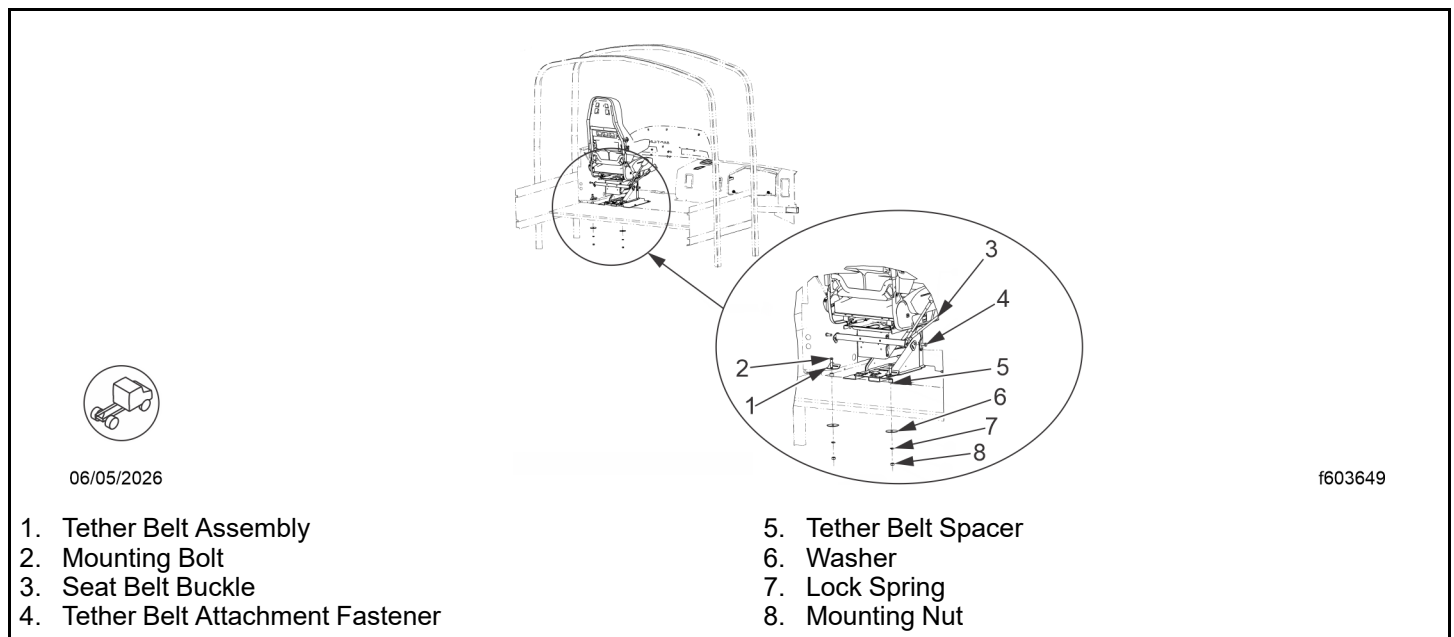
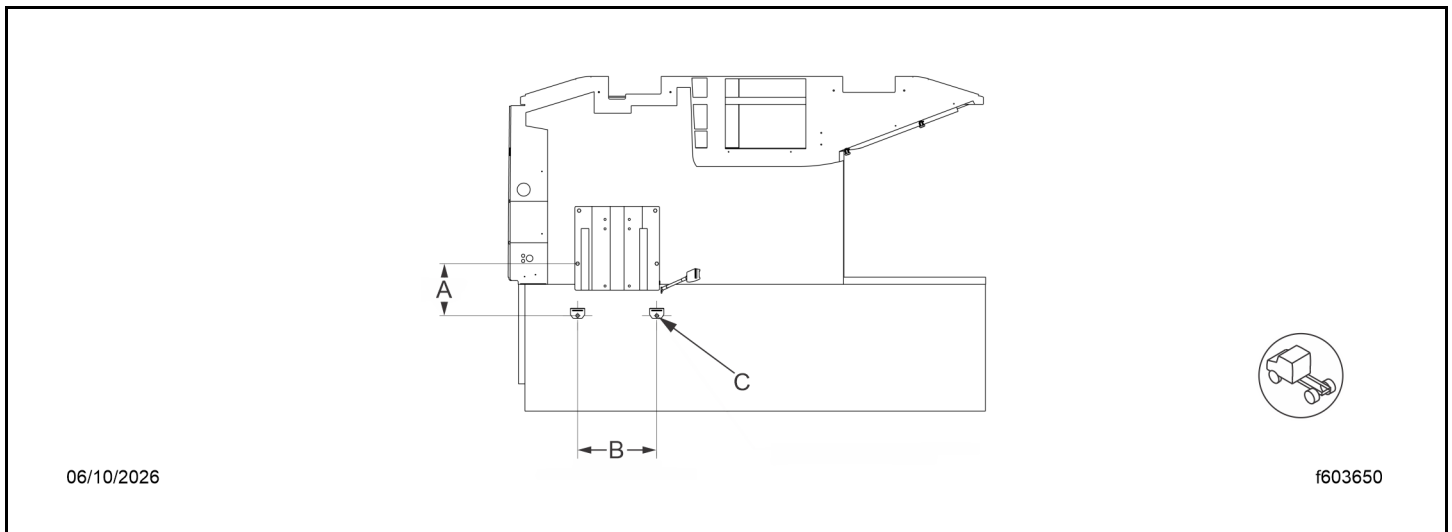

Fig 1, Tether Belt Assembly Fasteners
Fig 2, Under the Floor Diagram
4. Install the new anchor bolts through the tether belt mounting locations on the vehicle floor. See Fig. 1.
5. Install the washer, then lock spring, and then fastening nut from under the floor. See Fig. 1 and Fig. 2. Tighten the mounting bolts from the head side, torque to 30 lbf·ft (41 N·m).